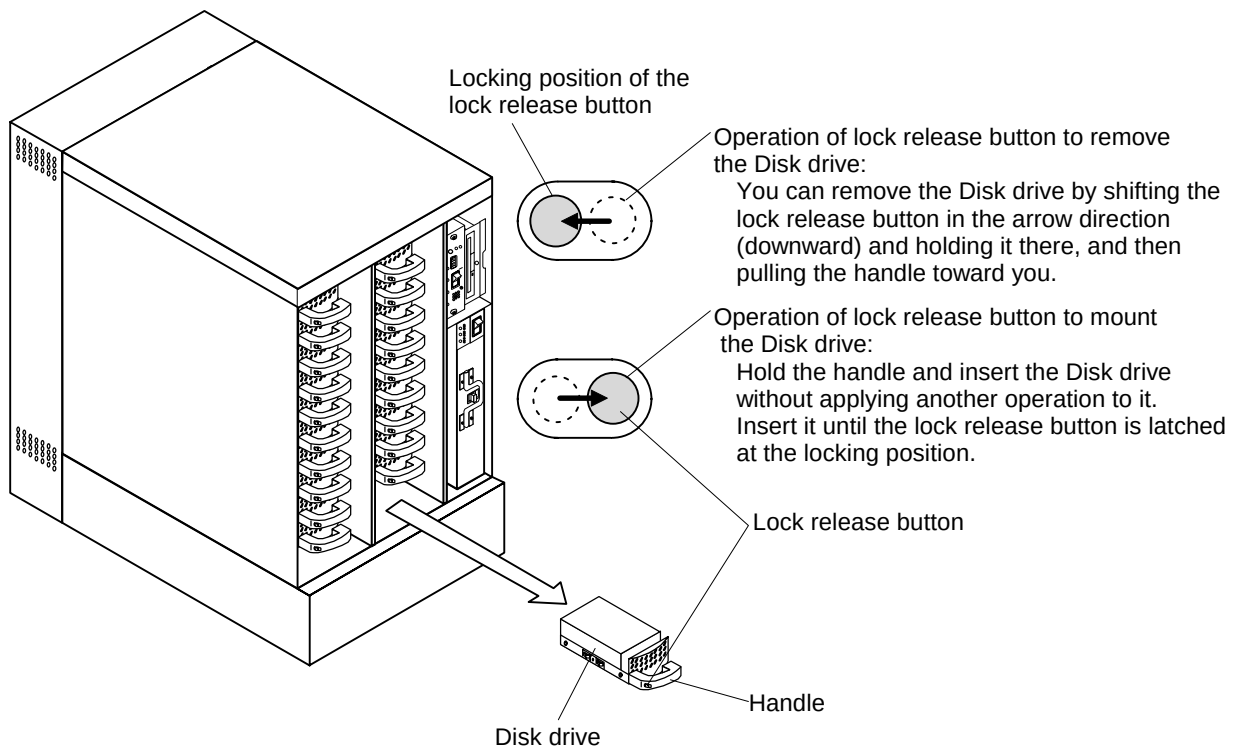

Figure 4.2.3 Operation of Lock Release Button of Disk Drive
- (e) Wait for more than 20 seconds, and then insert a new Disk drive taking care not to apply any shock to it. (See Figure 4.2.3.)
To replace Disk drive, refer to Figure 4.2.3.